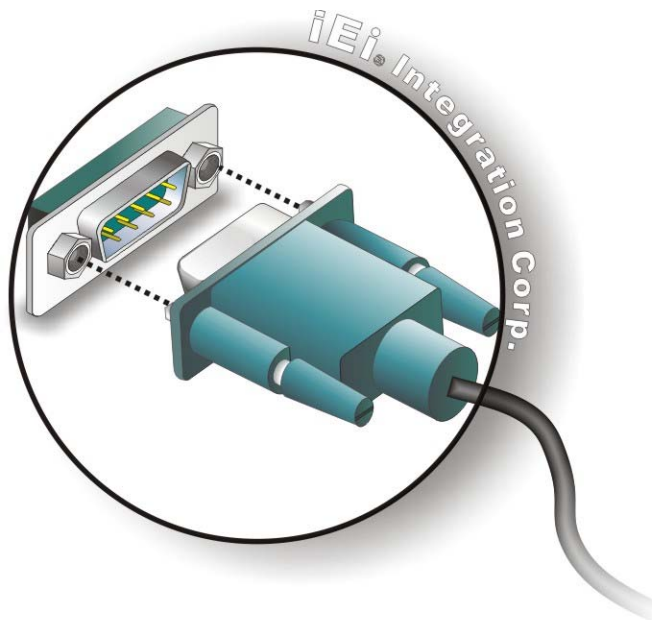

Figure 4-16: Serial Device Connector
Step 5: **Insert the serial connector.** Insert the DB-9 connector of a serial device into the DB-9 connector on the external peripheral interface. See **Figure 4-16.**